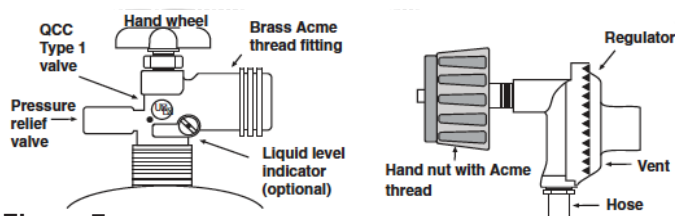

Figure 7
- e. The pressure regulator and hose assembly used must match the specification for Type I by ANSI Z 21.58/CGA 1.6 (See Figure 7)
Turn the hand nut counterclockwise until detached. See Figure 7.